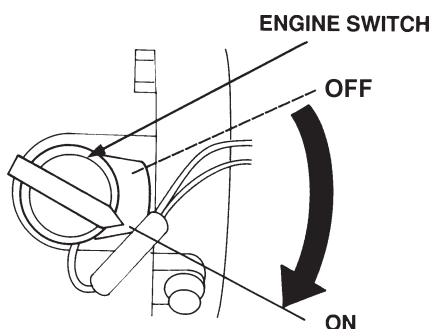

Figure 12. Engine ON/OFF Switch (ON)
- Turn the engine switch (Figure 12) to the ON position.